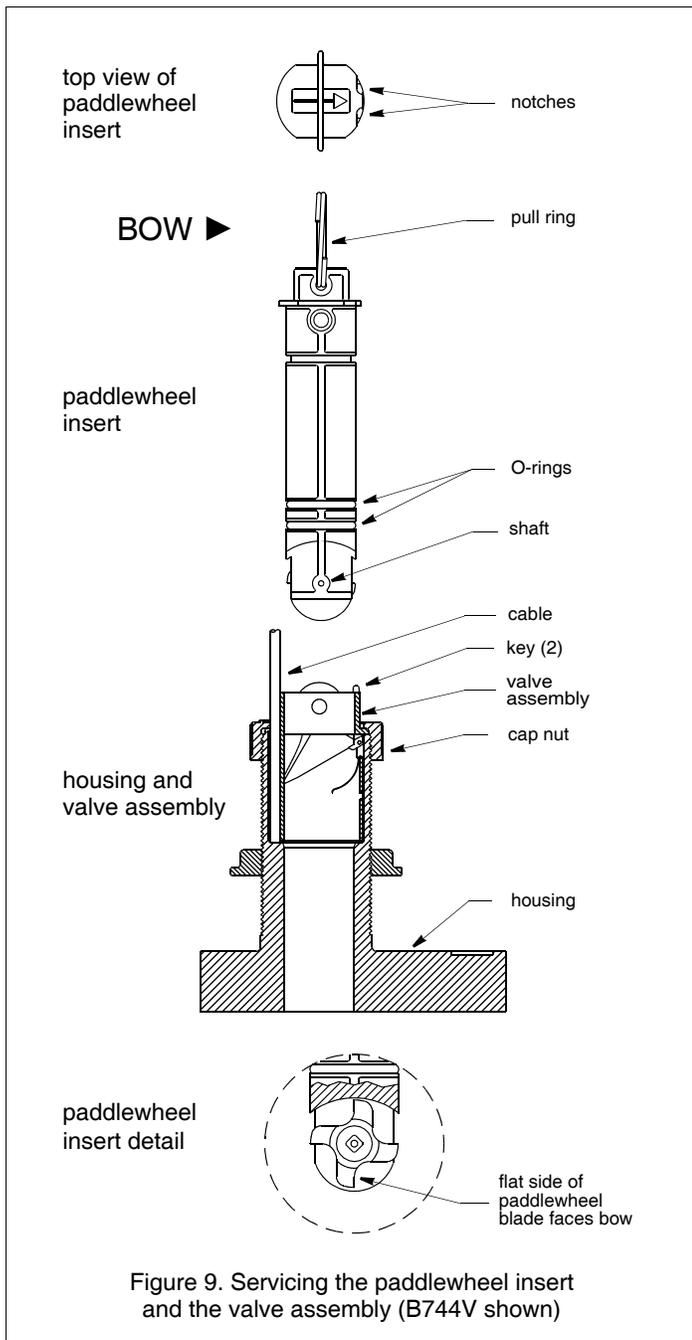

Figure 9. Servicing the paddlewheel insert and the valve assembly (B744V shown)
6. After the sealant cures, inspect and lubricate the O-rings on the paddlewheel insert with silicone grease or petroleum jelly (see Figure 9).
- Grasp the pull ring and remove the paddlewheel insert with a slow pulling motion (see Figure 9).
- Using the new paddlewheel shaft, push the old shaft out about 6mm (1/4"). With pliers, remove the old shaft (see Figure 9).
- Separate the paddlewheel insert from the valve assembly by removing one safety ring and the retaining pin. Grasp the pull ring and pull slowly upward (Figure 9).
- To reinstall the valve assembly, inspect and lubricate the O-rings on the paddlewheel insert with silicone grease or petroleum jelly (see Figure 9).